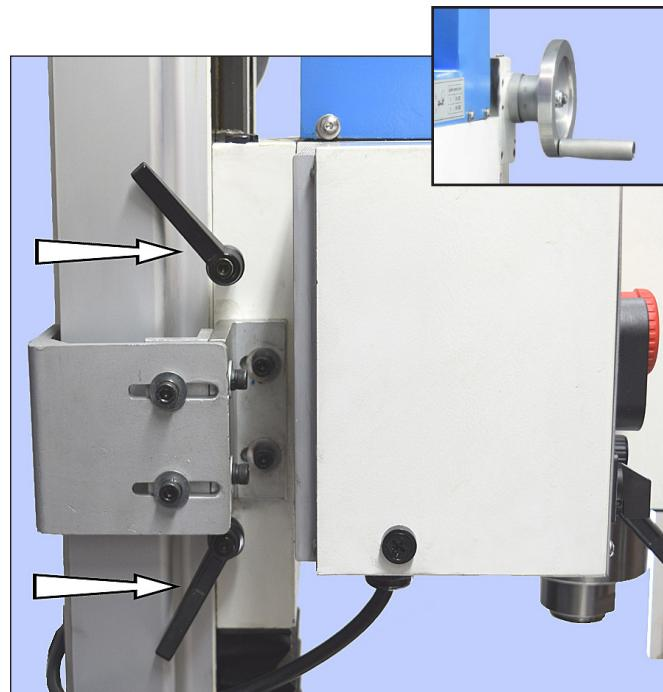

Figure 3-6 Z-axis locks
The Z-axis crank, Figure 3-6 inset, is at the top right of the column. If the mill has a 3-axis DRO the headstock position is displayed at all times. If not, the headstock can be positioned approximately by reference to a 12" scale on the column. For more precise positioning the crank hub has a graduated dial with 0.001” divisions (be aware of backlash in the bevel gears controlling the Z-axis leadscrew, and also in the leadscrew nut).
For milling operations calling for precise, repeatable control of tool depth, tighten knob (4) to engage hub (1) with the internal taper on sleeve (3). Tighten the Z-axis locks, Figure 3-6.